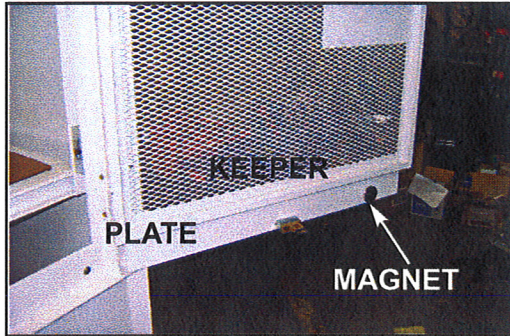

Figure 27
1. Adjust plate up and down or interlock keeper left or right to align into interlock. Adjust magnet to hold gate shut. See Figure 27.